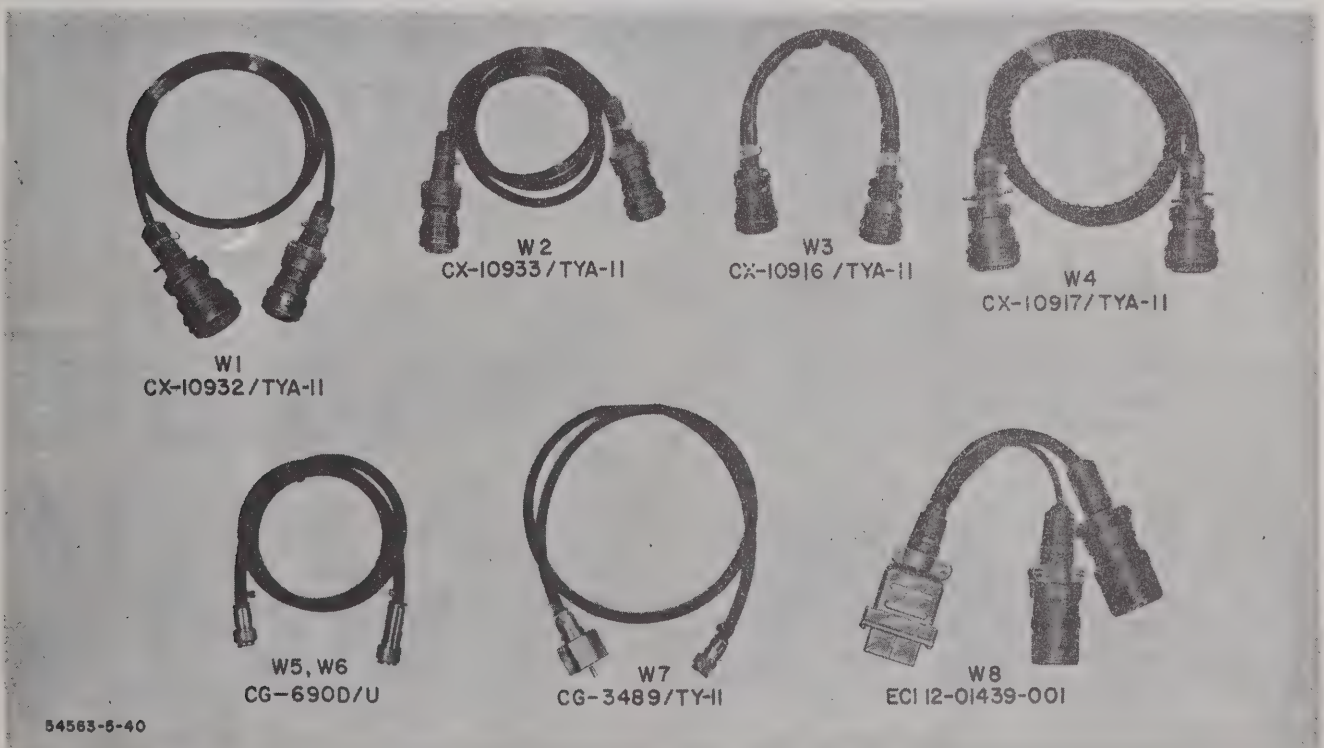

Figure 1-4. Communications Test Kit, MK-1102/TYA-11, Cable Assemblies
(3) Cable Assemblies. Communications Test Kit, MK-1102/TYA-11, contains eight cable assemblies. These cables are described in the following paragraphs and shown in Figure 1-4.